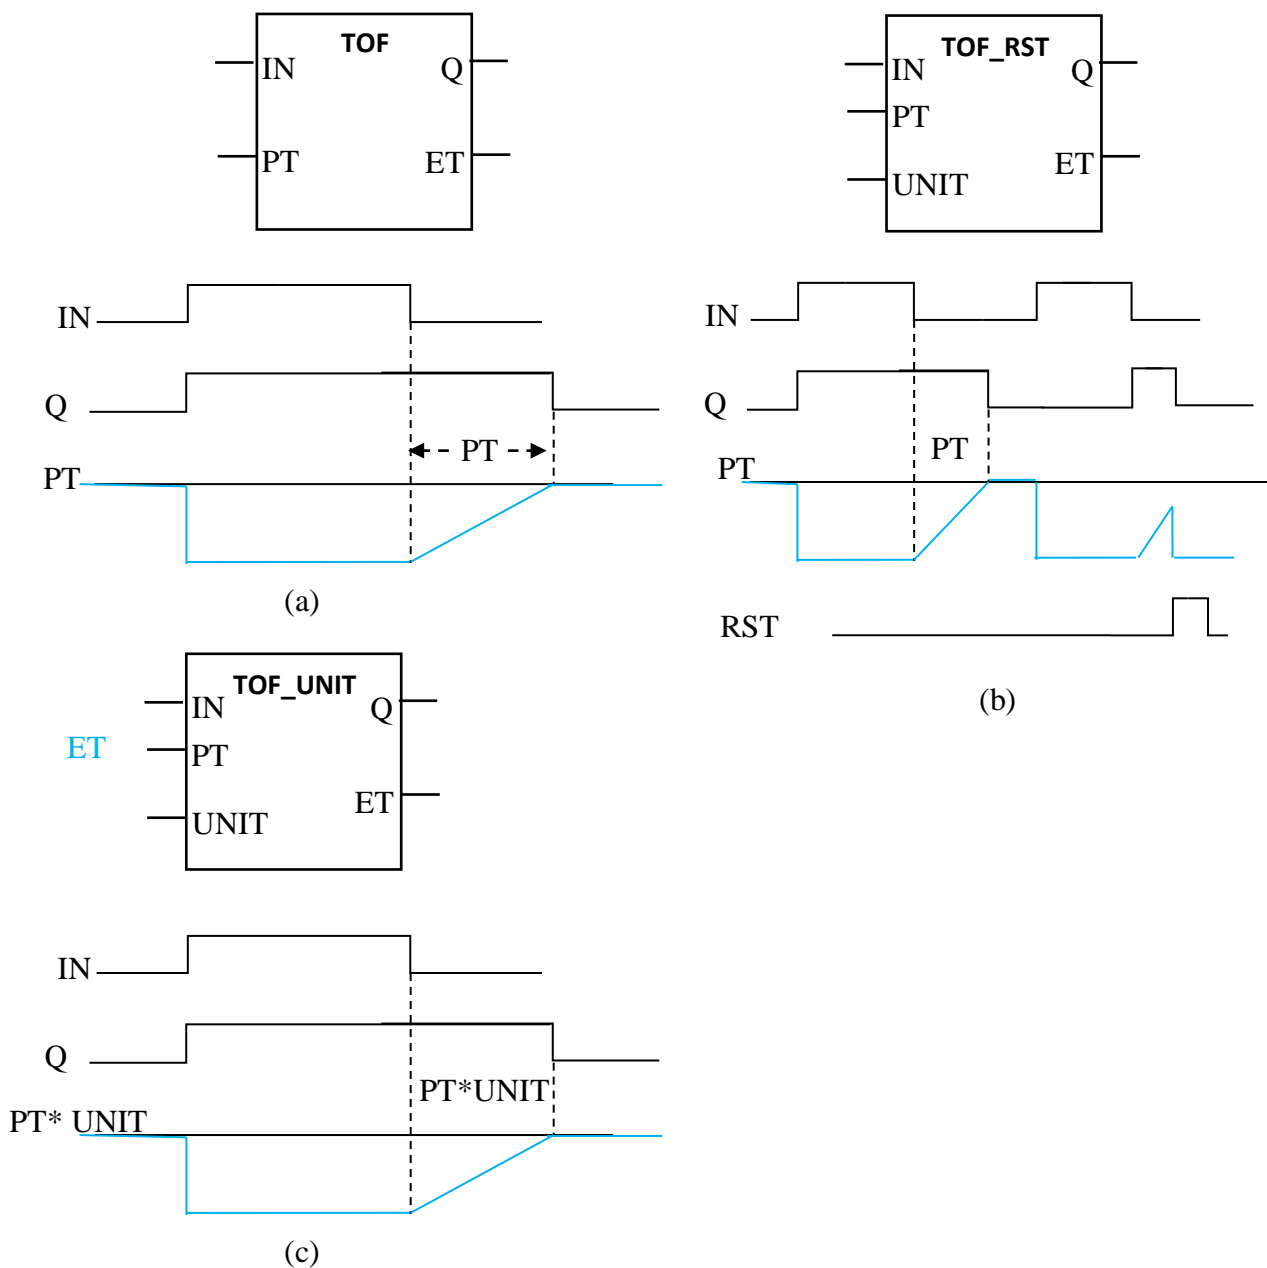

Figure 4: OFF delay timers a): OF timer b): OF with reset c) OF timer with integer setting.
OFF delay timers are used to delay the off activities. When activated ($IN=1$), these timers instantaneously close their normally open contacts but when deactivated ($IN=0$) they delay the opening of these contacts until the preset time delay is elapsed. These timer instructions are classified into direct time setting timers (TOF without reset facility and TOF_RST with reset facility) in which the time setting is the time assigned to the input PT (here PT is of TIME data type) and indirect or integer time setting (TOF_UINT) in which the time setting is the product of integer type preset time setting (PT) and integer type time unit (UNIT). Each has an enable input (IN) to activate or deactivate the instruction and an output variable ET to store the elapsed time. Figure 4 displays the ladder symbols of these timers and also their timing diagram.